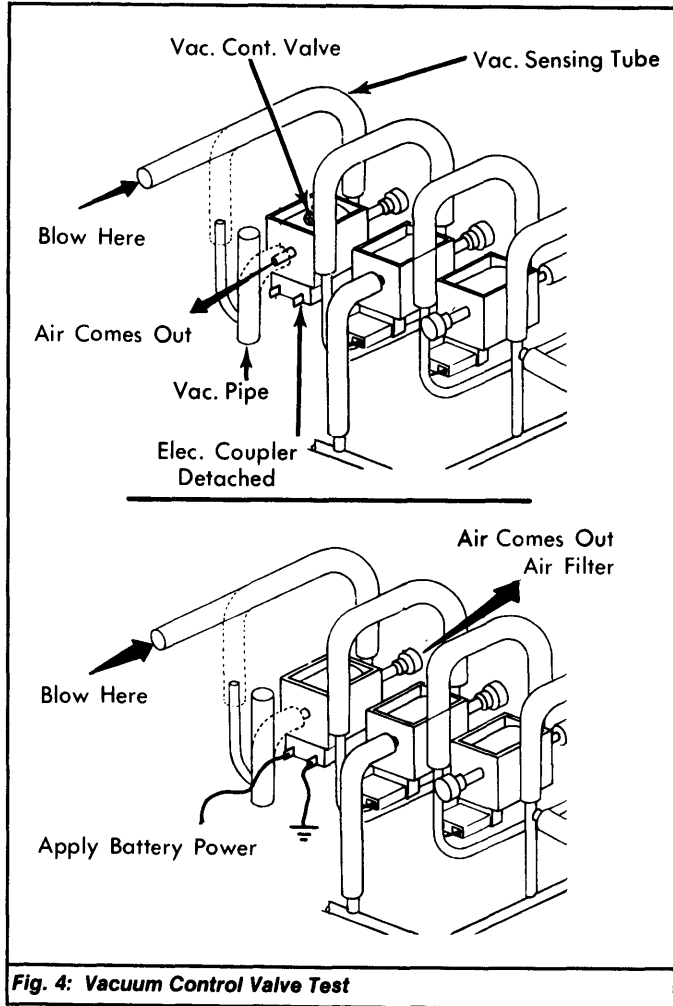

Fig. 4: Vacuum Control Valve Test
2) Apply battery power to vacuum control valve at one valve electrical terminal and ground the other. See Fig. 4. Again, blow through vacuum sensing tube. Air should come out of air filter. If valve does not respond in this manner, replace it.